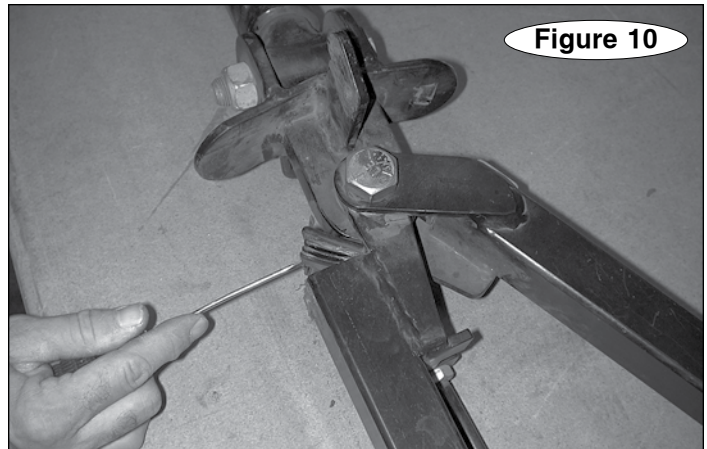

Figure 10
7. With the straight edge screwdriver, pry off one of the end caps (Figure 10) and replace it with a new one; repeat for the other tow bar arm.